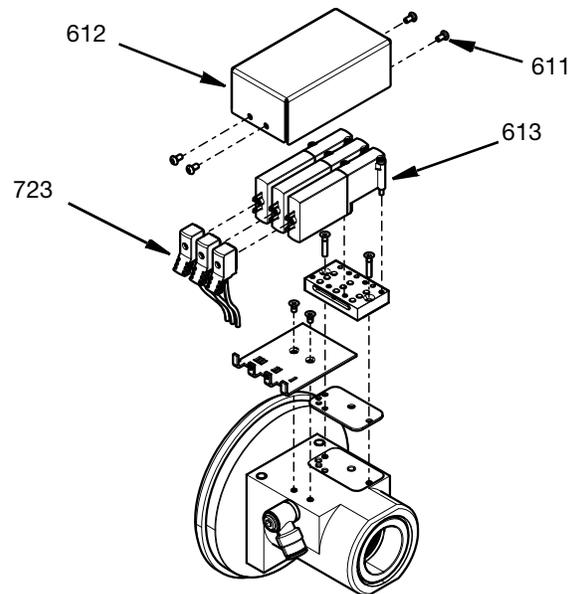

FIG. 23
12. The solenoid valves and manifold can be accessed by removing the cover (612) and removing the four M3 screws (611). The cable connectors (723) can be unplugged and the solenoid valves (613) can be removed by their attached screws. See FIG. 23.